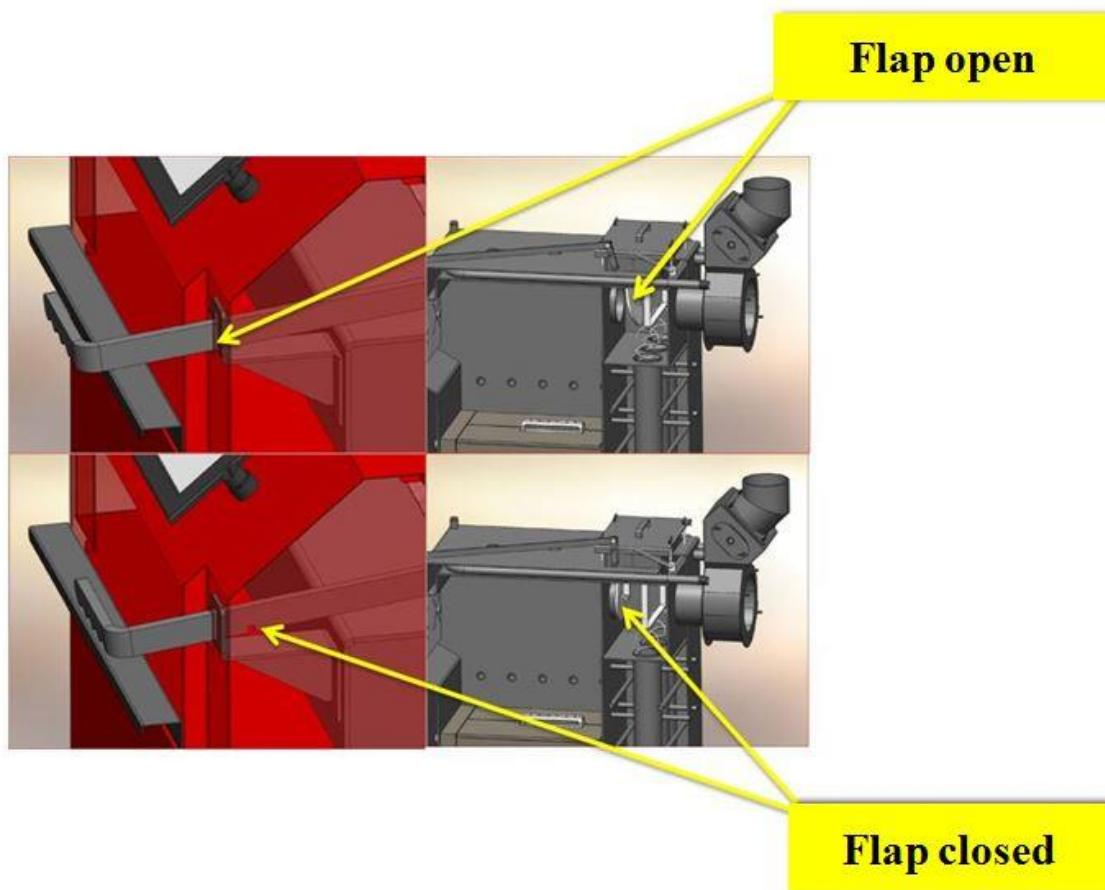

Figure 35. Positions of the flap and the flap handle in the “operation” and “ignition” mode
- Inside the boiler there is a flap for directing the flue gas in two modes “operating” and “ignition” position. This flap is operated by the handle on the front side of the boiler. Move the handle towards you and lock it using the notch on the handle. The flap is the in the “ignition” position. (*Figure 35*)